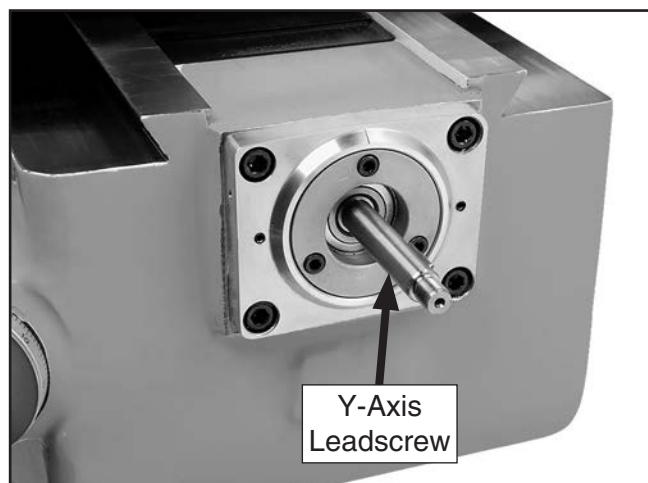

Figure 66. Ball handle, ring, and key removed from Y-axis leadscrew.
3. Unthread and remove the knurled retaining ring, graduated dial ring, and the leadscrew key (see **Figure 66**).